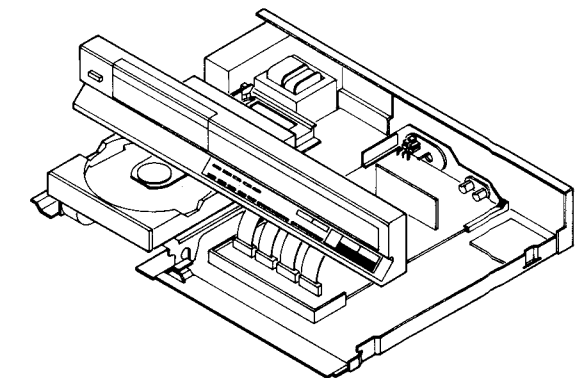

Fig. 22
3. Check the P.C.B. as shown in Fig. 22.